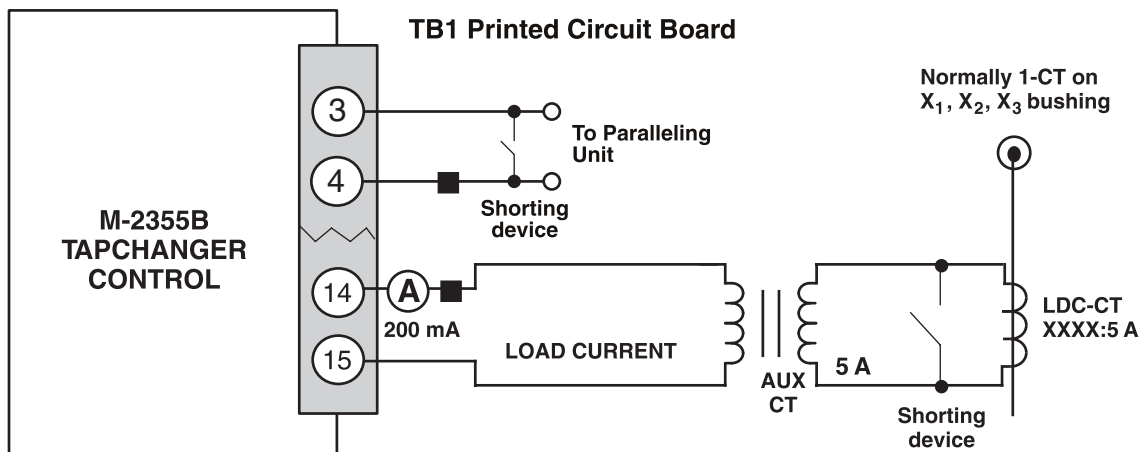

Figure 14 Setup for Current Checkout Procedure
1. Setup the M-2355B for current checkout as illustrated in Figure 14.